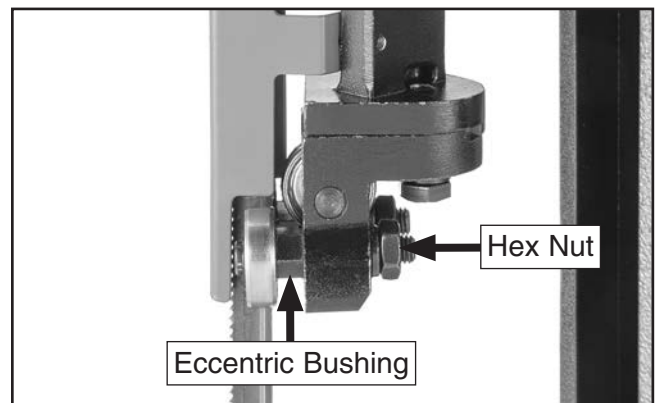

Figure 58. Blade guide adjustment components.
The blade guide bearings must be properly adjusted to make square cuts. One bearing on each assembly has an eccentric bushing that allows it to be adjusted so the blade is square to the vise. The bearings are secured in place by a hex nut and lock washer, as shown in **Figure 58**.
- Loosen hex nuts securing eccentric bushings attached to guide bearings (see **Figure 58**).